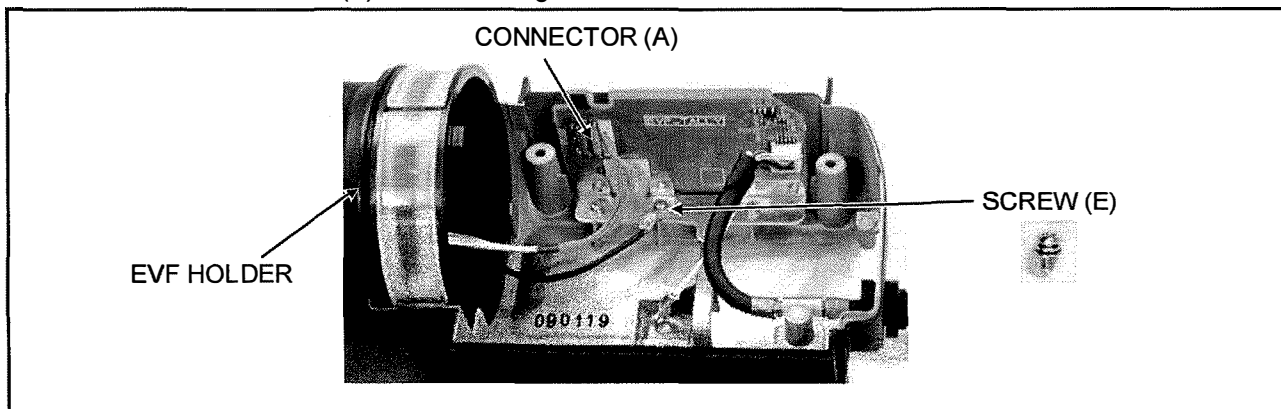

Figure 12-1
5. Unscrew a screw (E) as shown in figure 12-1 and remove the GND cable.
6. Disconnect the connector (A) as shown in figure 12-1 and remove the EVF HOLDER.